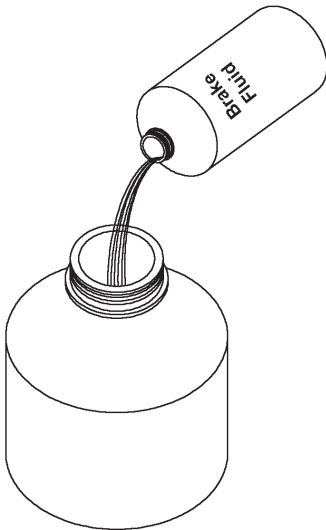

Figure 1
1. Fill the 40 oz. (1200 ml) reservoir (included with MVA6832) with the vehicle manufacturer's recommended brake fluid, to a level exceeding the amount of fluid to be bled (Fig. 1), and install the lid. Or remove the lid from a standard new 12 oz. or 32 oz. bottle of brake fluid and thread on the appropriate sized Adapter Cap. (MVA6832)